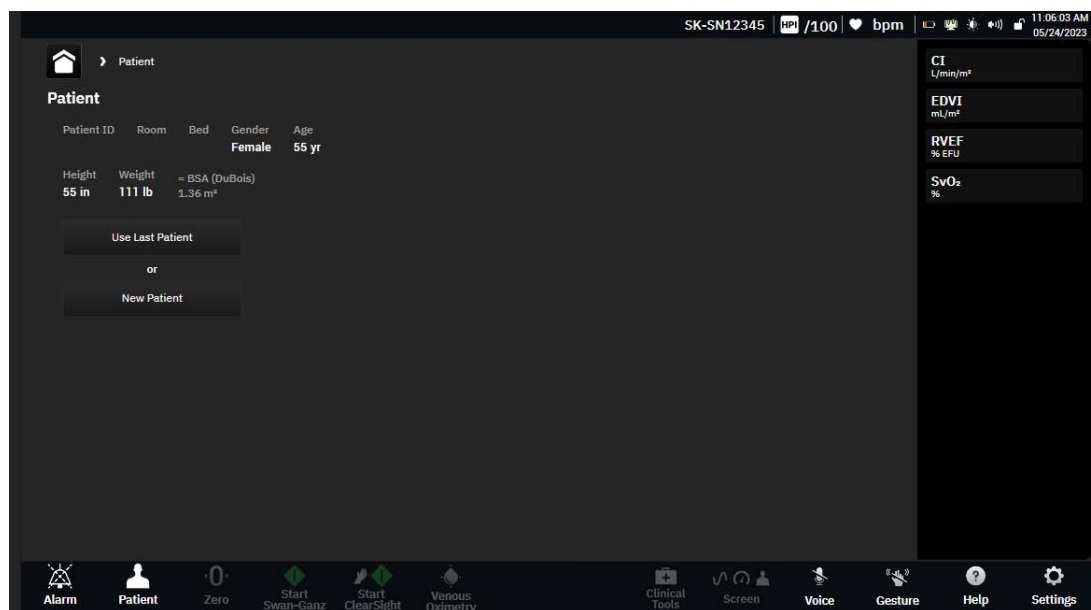

Figure 5-2 New or continuing patient screen
After the system is turned on, the user has the option to either continue monitoring the last patient or to start monitoring a new patient. See figure 5-2.
- 1 After turning on the monitor, the new or continuing patient screen appears (figure 5-2). Touch **New Patient** and continue to step 2.